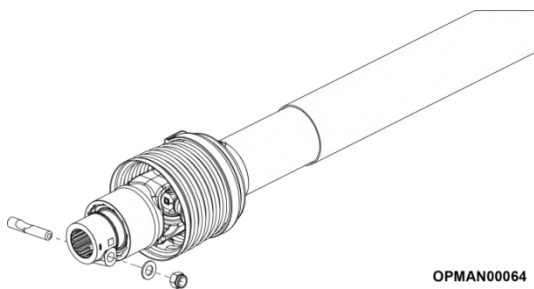

Figure 4.11 – Remove Taper Pin
- 4.5.1.1 Proceed to remove the taper pin, flat washer and nut from the machine end of the input PTO shaft. See Figure 4.11.
4.5.1.8 To then completely remove the shaft, remove the taper pin, flat washer and nut from the machine end; see Figure 4.11.